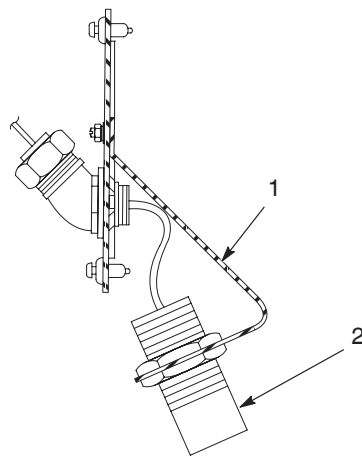

Figure 4-5 Sensor panel assembly
- b. Adjust the position of the sensor in its bracket (see Figure 4-5).